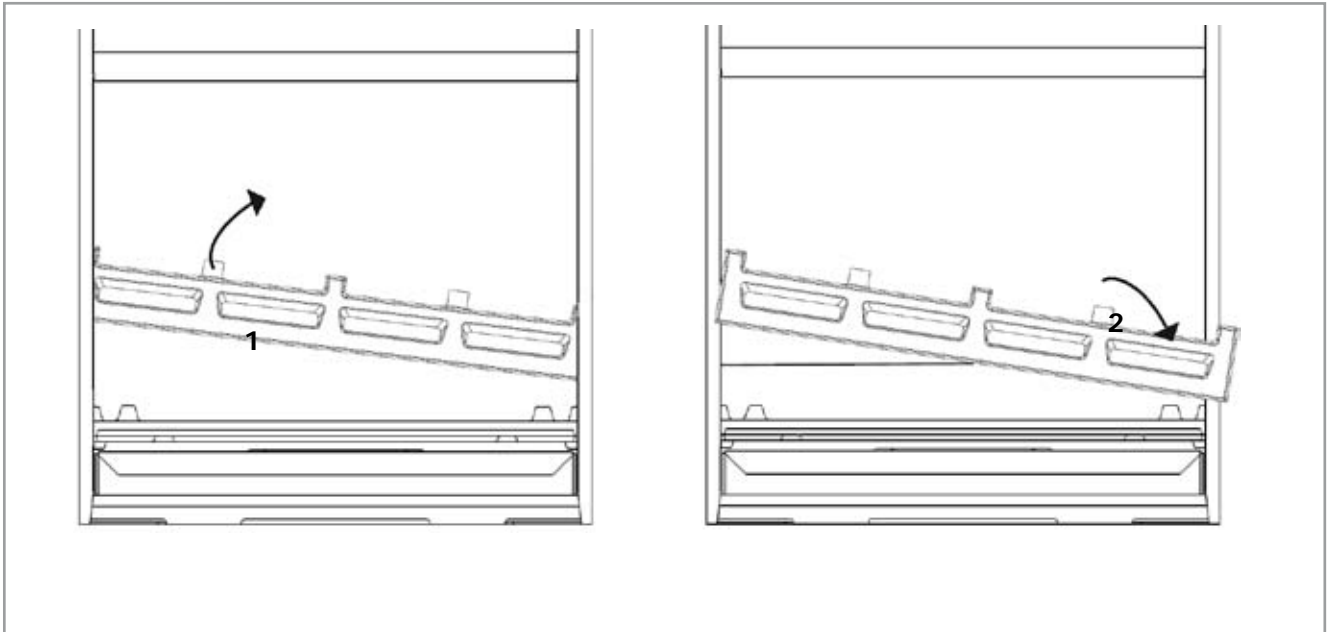

Figure 9 - Removing the fuel retainer
- Ensure that the fuel retainer is installed correctly (fig. 9).